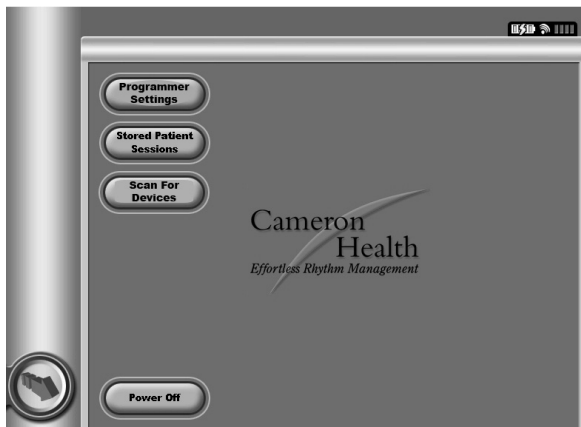
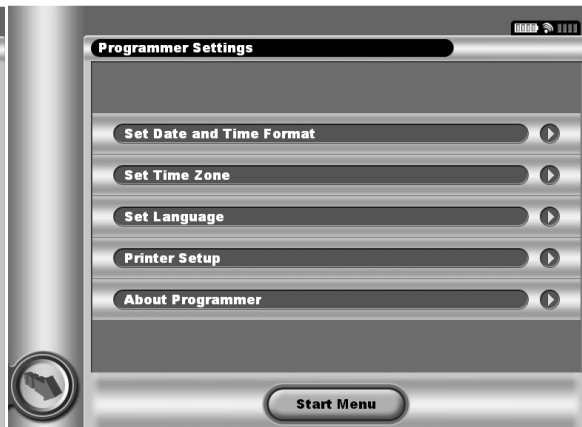

Figure 7: Startup screen
Figure 8: Programmer Settings screen
1. Select the Programmer Settings button on the Startup screen (Figure 7), to display the Programmer Settings screen (Figure 8).